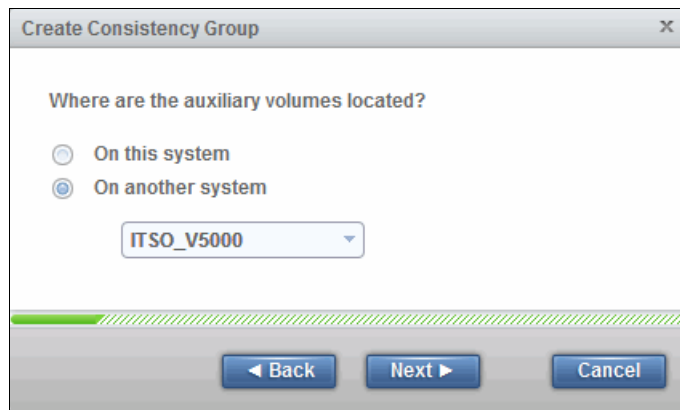

Figure 10-123 Creating an empty consistency group or adding relationships
4. Next you are prompted to create an empty consistency group or add relationships to it, as shown in Figure 10-123.